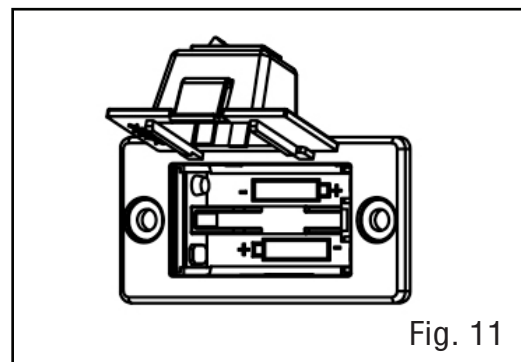

Fig. 11
3. Install two AAA batteries into the battery slots and close the switch cover (Fig. 11).